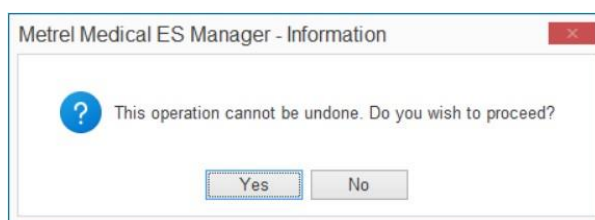

Figure 7.6: Paste as same confirmation information window
- **No equal unique identifications:** procedure continues with the confirmation window, **Figure 7.6**.